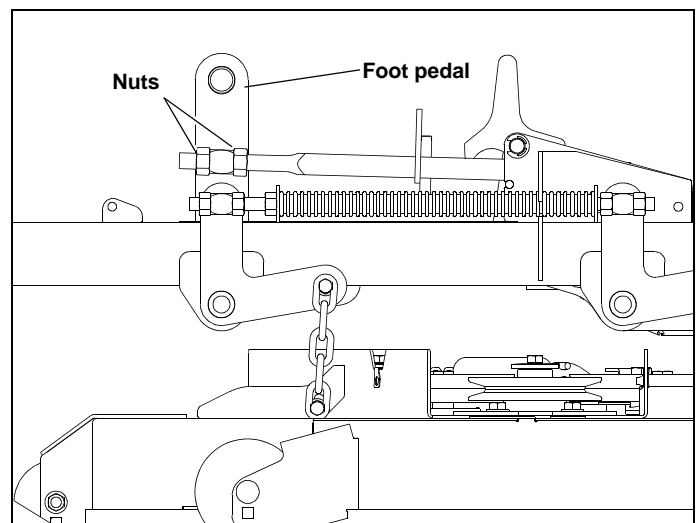
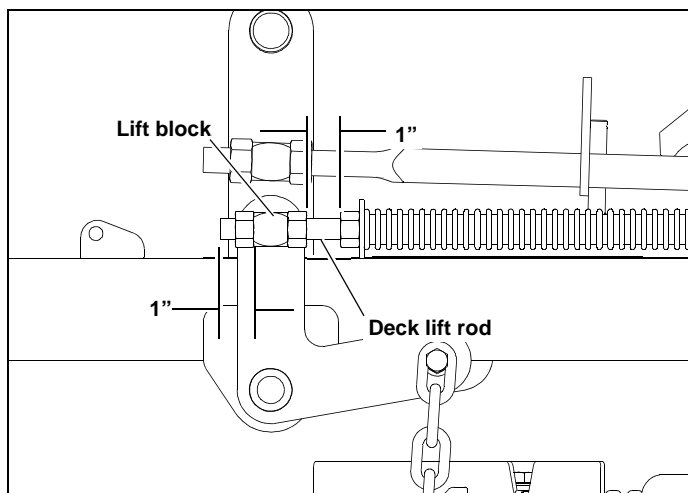
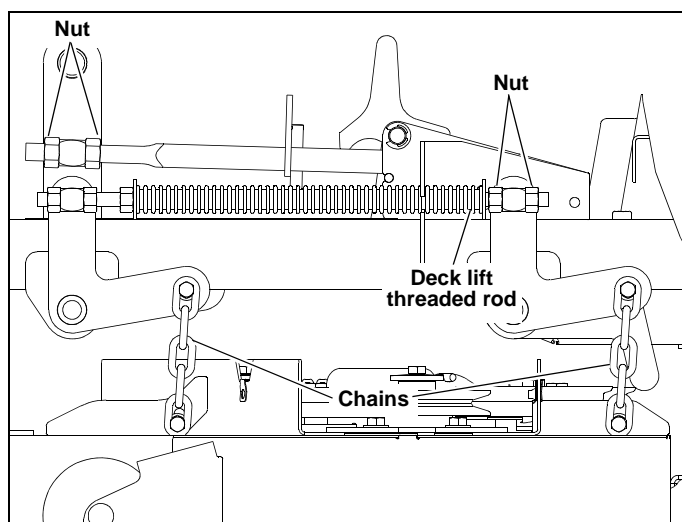

Figure 6-3
Figure 6-4
Figure 6-7
6. Loosen all nuts on the deck lift threaded rods, and the hardware on the height indicator bar (on the right front), until **all** the deck lift chains are loose, **and** the deck is sitting tightly on all four blocks. Figure 6-3, Figure 6-4 & Figure 6-7
7. Loosen the two nuts on the front of height indicator so that the foot pedal is free. Figure 6-3 & Figure 6-7
from the lift block at approximately 1" (2.54cm) (left & right side). Figure 6-4
12. While keeping the chain tight, tighten the nuts against the deck lift block on the height indicator rod, just enough to carry most of the deck weight on that side — the block should be able to move with only a slight drag. Figure 6-4
24. Make sure that there is still slack in the chain. If not, loosen the two nuts on the block holding the threaded rod until there is slack in the deck lift chain. Figure 6-7
25. Tighten the appropriate nut until the chain just becomes tight, and carries most of the deck weight. Check by moving the block—it should move with a slight drag. Figure 6-7
27. Compress the deck lift assist springs so that there is 1" (2.54cm) of space between the front nut on the spring and the rear nut on the deck lift block. Typical both sides. Figure 6-4